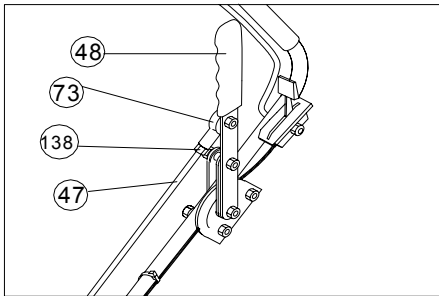
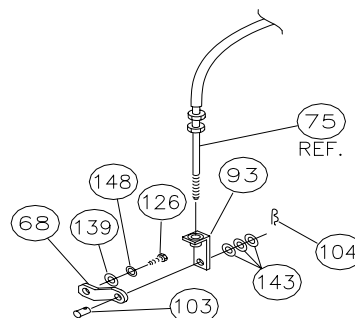

Fig. 1
Fig. 5
1. **UPPER HANDLE (item 41).** Assemble securely to lower handle stubs (item 37) and handle brace (item 36), using screws (item 120 & 121), so that screw heads are on inside of handle. Otherwise, premature bag wear could result.
2. **NOZZLE DOOR CONTROLS.** Assemble ball joints (item 73), jam nuts (item 138), to both ends of rod (item 47). *Do not fully tighten jam nuts.*
Using screw (item 117), washer (item 143) and lock nut (item 131), connect one end of rod (item 47) to nozzle door mounting. (See Figure 5). Using rod, pull nozzle door open horizontal to ground and hold opposite end of rod next to mounting hole on remote lever (item 48), already assembled onto upper handle. (See Figure 1). If necessary, adjust rod length using threads provided on rod. Adjust rod length to give a minimum of 1.0" (25.4 mm) hand clearance between lever & maximum forward throttle position when door is open. Assemble upper end of rod to lever on handle using same hardware item numbers as shown above. (See figure 1 & 2). Tighten jam nuts.